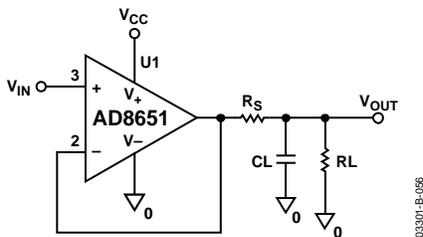

Figure 55. Driving Large Capacitive Loads
1) As shown in Figure 55, place a small value resistor ( $R_s$ ) in series with the output to isolate the load capacitor from the amplifier's output. Heavy capacitive loads can reduce the phase margin of an amplifier and cause the amplifier response to peak or become unstable. The AD8651 is able to drive up to 47 pF in a unity gain buffer configuration without oscillation or external compensation. However, if an application will require a higher capacitive load drive when the AD8651 is in unity gain, then the use of external isolation networks can be used. The effect produced by this resistor is to isolate the op amp output from the capacitive load. The required amount of series resistance has been tabulated in Table 5 for different capacitive load. While this technique will improve the overall capacitive load drive for the amplifier, its biggest drawback is that it reduces the output swing of the overall circuit.